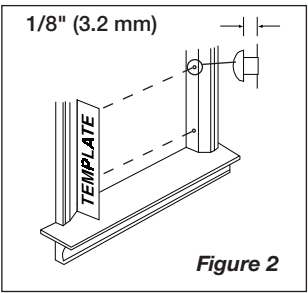

Figure 2
- Mark Screw locations on inside edges of window trim using enclosed Template. (*Figure 2*)